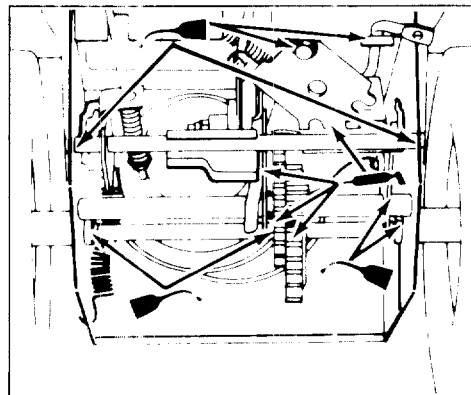

Figure 21
4. Lightly lubricate snowthrower with light oil and grease as shown in Figure 21. Wipe up any excess oil or grease.